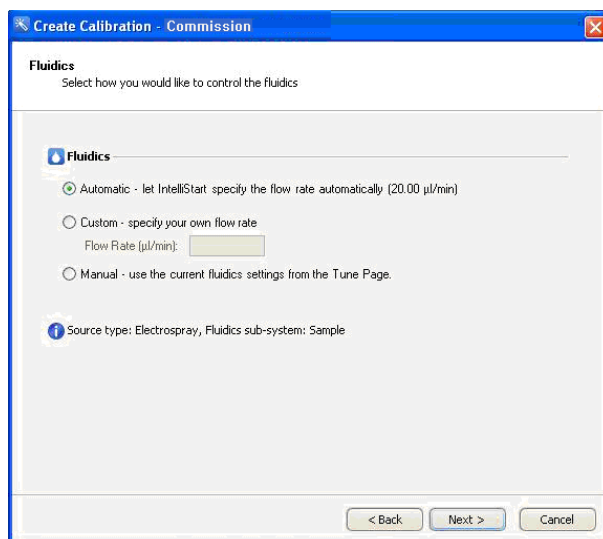

Figure 39 - Commission page
15. Select the **Automatic** check box to define how the fluidics will be controlled (Figure 39).